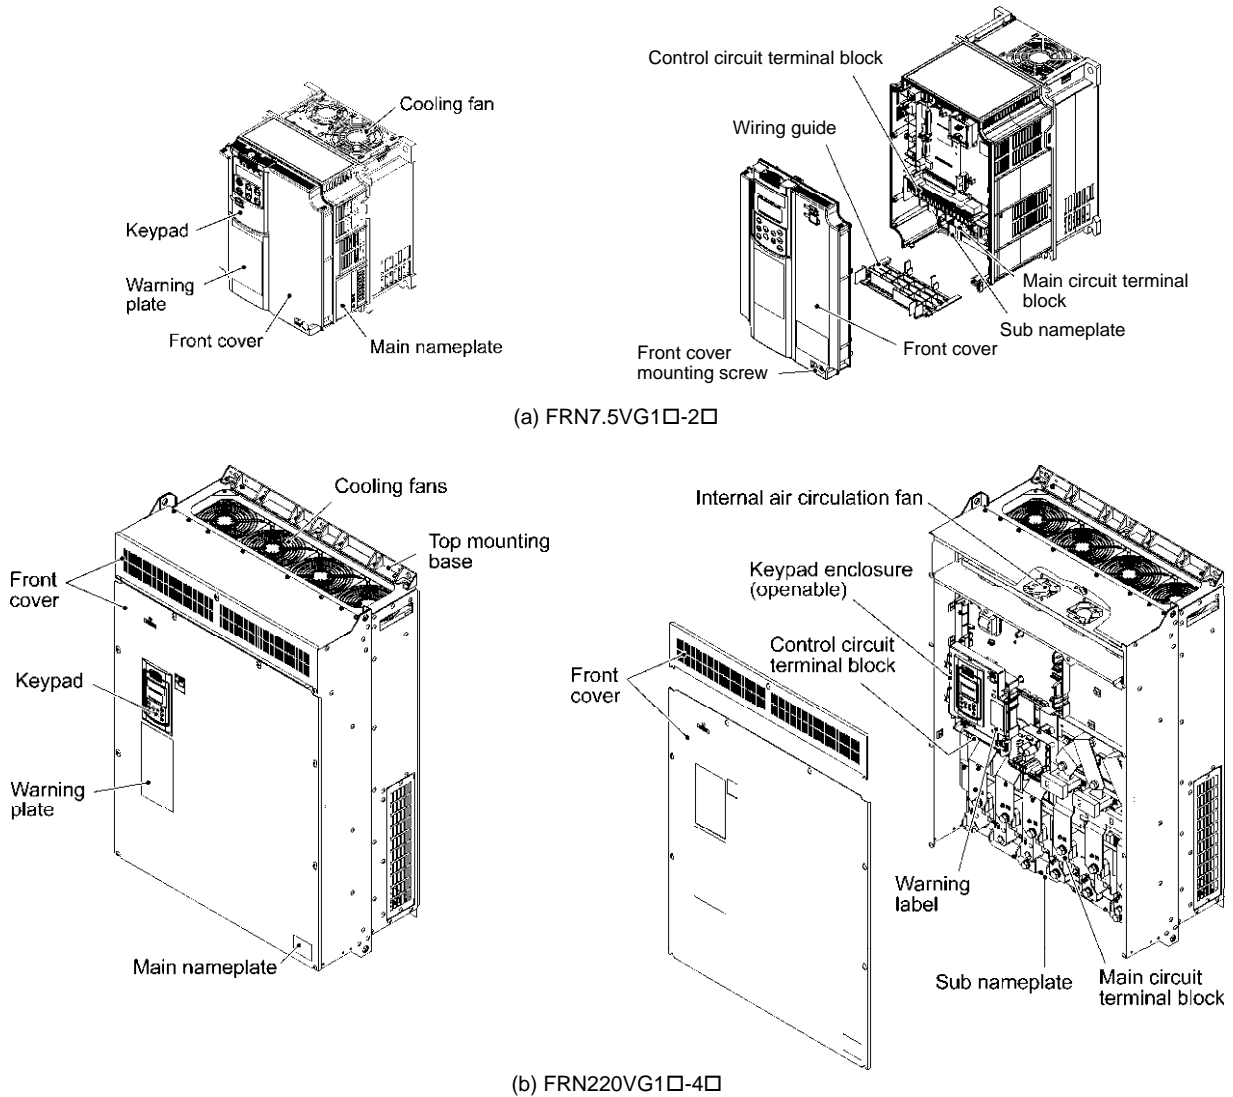

Figure 1.2-1 Outside and Inside Views of Inverters
(2) The inverter has not been damaged during transportation—there should be no dents or parts missing.
(3) The inverter is the type you ordered. You can check the type and specifications on the main and sub nameplates. (The main and sub nameplates are attached to the inverter as shown in Figure 1.2-1.) For inverters of 30 kW or above, the mass is printed on the main nameplate.